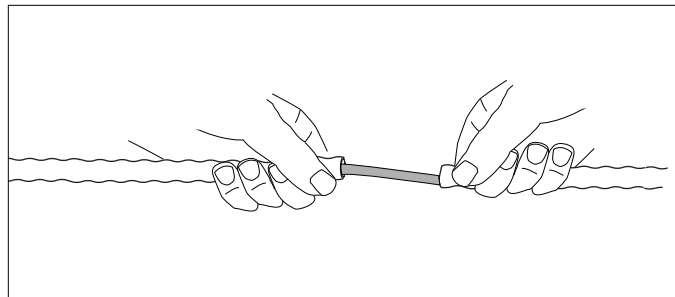

Figure 8 — Exposed cable
Step 9: Gently flex the cable until the DX armor snaps and remove the armor and outer jacket to expose the inner cable (Figure 8).